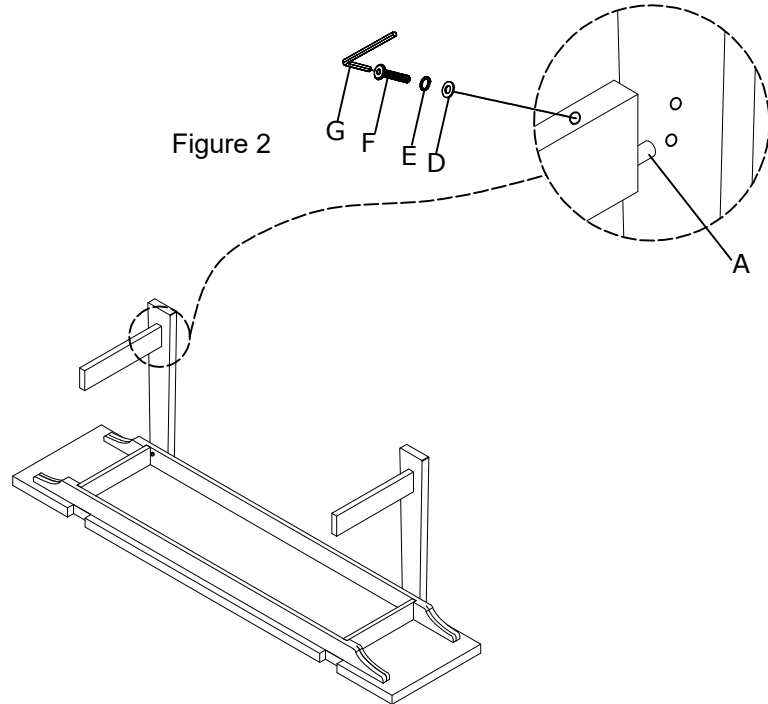

Figure 2
2. Attach the leg rails to the legs with Wood Dowel (A), Bolt (F), Lock Washer (E) and Flat Washer (D) by Allen Wrench (G) as shown in Figure 2.